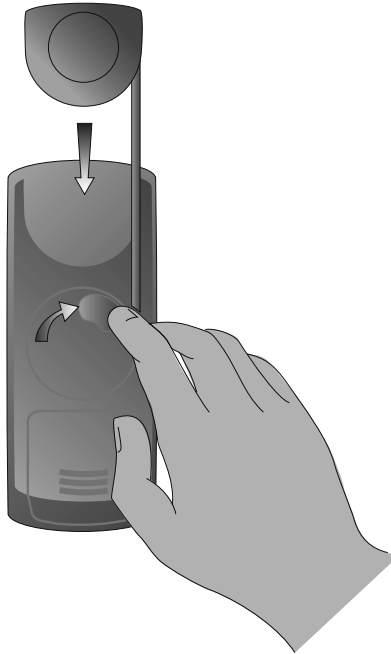

Figure 9. Retracting the programming head.
1. Turn the cable reel in the direction of the arrow until the programming head rests against the programmer (Figure 9).